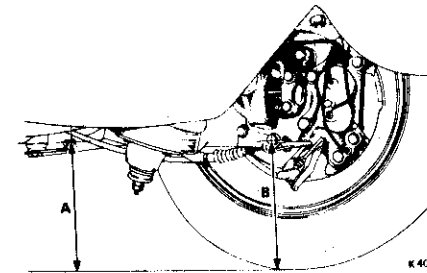

Fig. 3 Car Height Checking Points - Rear
35. Check and adjust the levelled height as necessary; the height from the ground to the centre of the rearmost bottom bolt which attaches the crossmember mounting forging to the body sill should be 0.875 in. + 0.125 in. (22.22 mm. + 3.175 mm.) less than the distance from the ground to the centre of the rearmost bottom bolt attaching the rear yoke to the trailing arm (see Fig. 3).